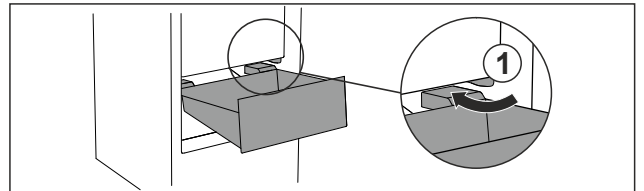

Fig. 116
- ▶ Guide drawer in at an angle around the stoppers Fig. 116 (1).